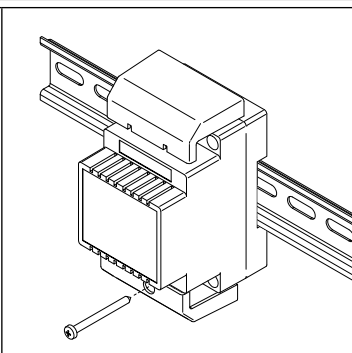

Fig. 6
5. When all connections are made replace and fix the terminal covers with the relevant screws (**Fig. 6**);
5. Inserire a scatto i coperchi copri-morsetti e fissarli tramite le relative viti (**Fig. 6**);